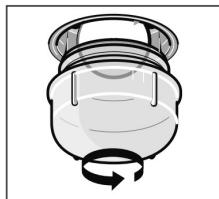

Figure 5
2. Turn the glass cover counterclockwise.[Figure 5]